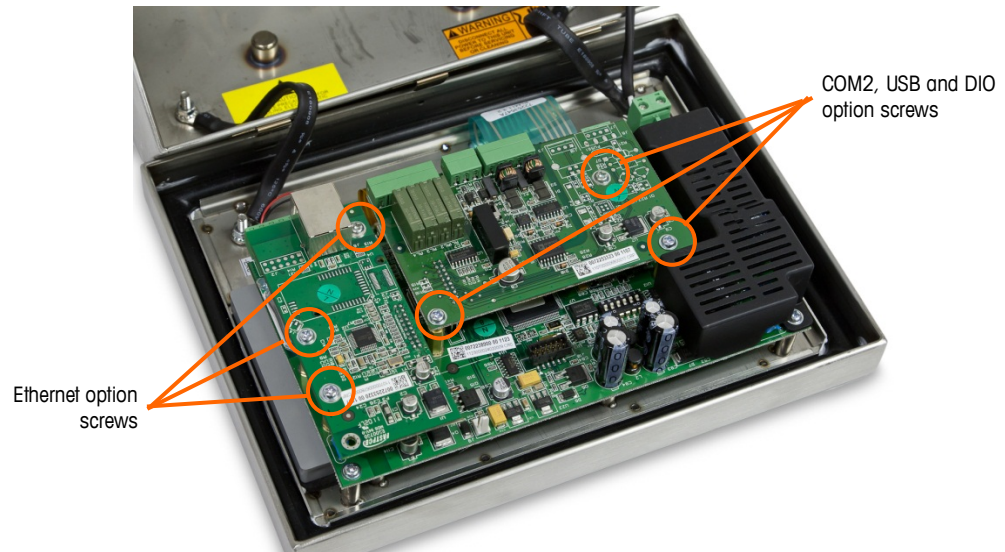

Figure 5-11: Option Board Removal
2. Use a medium Phillips screwdriver to remove the screws securing the option boards to its mounting location. Each board will be secured with three screws. Refer to Figure 5-11.
2. Position the option board over the appropriate connector on the main board and the three mounting holes identified in Figure 5-11.